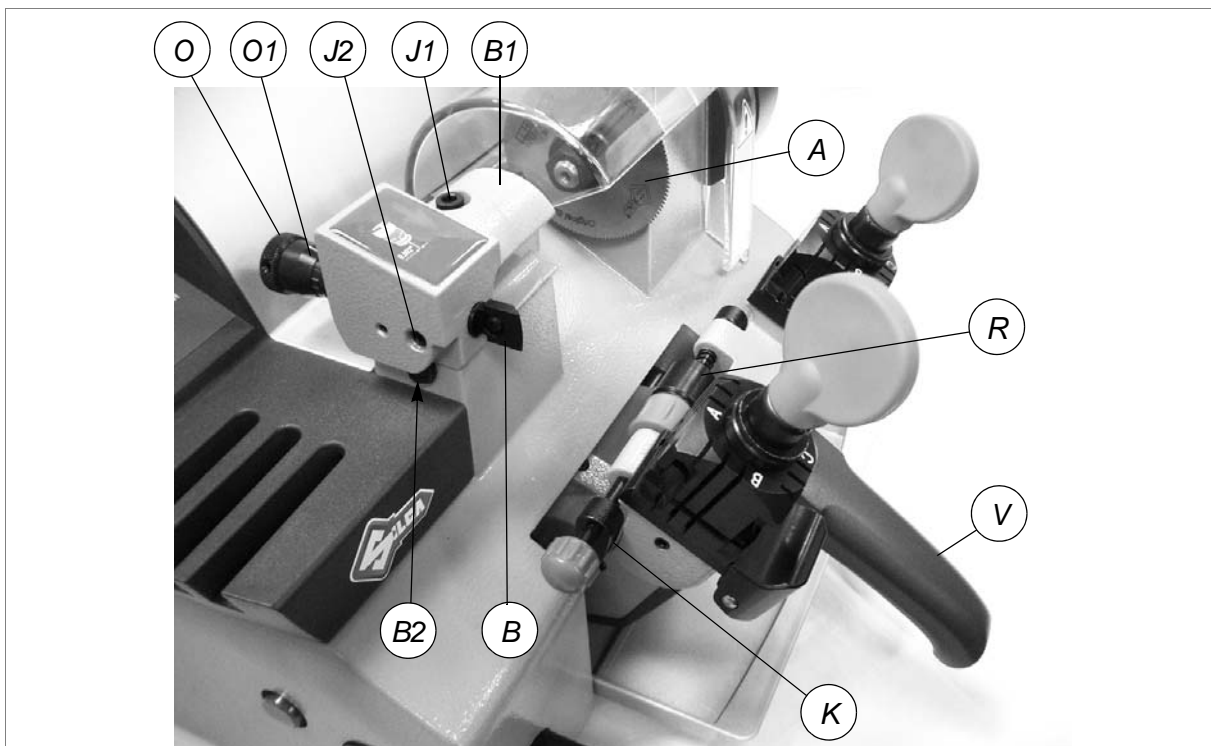

Fig. 14
- a) loosen the screw locking the tracer point (J2) (fig. 14, page 15).
- b) turn the knob (O) clockwise to move the tracer point forwards.
- c) turn the knob (O) anticlockwise to move the tracer point backwards (each mark on the graduated drum equals a variation of 0.002").
- a) with one hand hold still the knurled part of the knob (O).
- 1) Turn off the master switch (C) to operate safely and prevent activation of the cutting tool.
- 2) Place the adjusting key in the clamps (fig.14) with the notch facing the cutting tool and tracer point and proceed as follows:
- a) ensure that the keys adhere to the clamp and that the callipers (K) are in full contact with the stops.
- b) to take the callipers into contact with the keys, rotate the drum (R) towards you (away from you to return to the idle position).
- 4) Move the adjusting key so that the notch comes into contact with the cutting tool (A) and tracer point (B).
- a) loosen the screw (J1) to move the tracer point (fig.14).
- 8) Lower the carriage by means of the handle (V) (it will engage automatically).